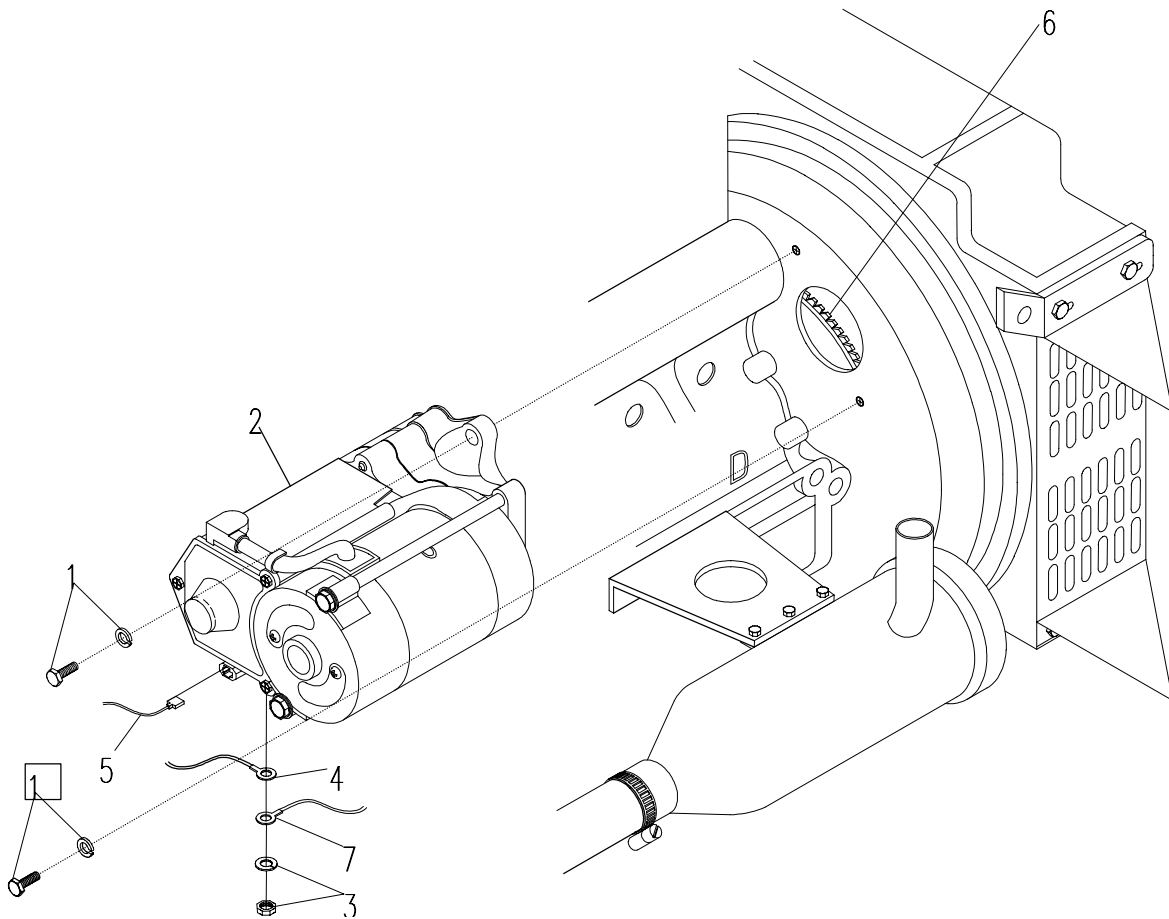

Figure 4-25. Starter
- a. Pull back protective cover and remove one nut and lock washer (3, Figure 4-25) and tag. Remove leads SB (4) and positive (4) lead (7) from battery to starter.
- b. Remove lead STR (5) from starter (2).